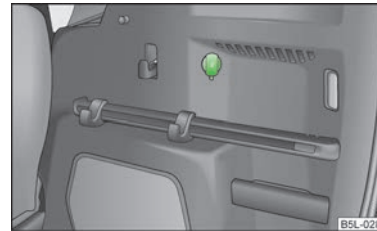

Fig. 70
In the boot » Fig. 70.
- Open the socket cover » Fig. 70.